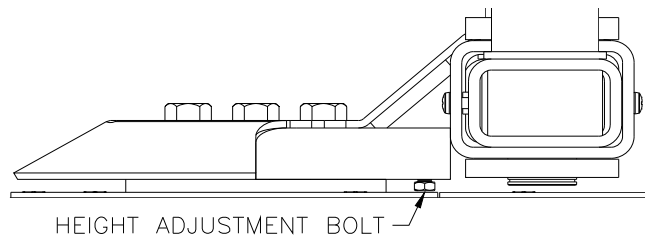

Fig. 10
26. With the lift lowered, arms extended fully and foot pad in the lowest position, check clearance of the foot pad screw to ensure it does not make contact with the floor. Use the height adjustment bolt shown in **Fig. 10** to either raise or lower the bolster as necessary. If there is more than 3/8" of clearance on both screws with the bolt fully seated against the bottom of the bolster remove the bolt.